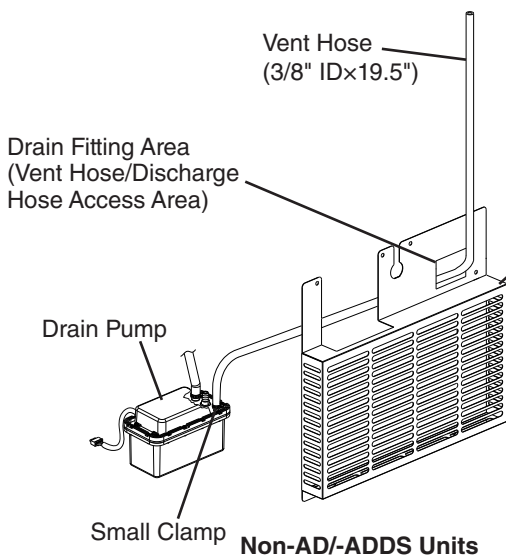

Fig. 8
- 10a) On non -AD/-ADDS units, route the vent hose (3/8" ID×19.5") through the drain fitting area (vent hose/discharge hose access area) in the rear access panel. See Fig. 8.